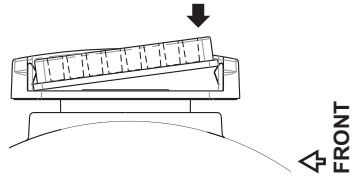

Fig.1 Platform or plate installation
Install the platform or plate by inserting it in the universal platform/plate holder (fig.1).
- 4.2. Place the plate or optional platform on the universal platform/plate holder and push it inside firmly (fig. 1). Insert the tubes into the sockets of the optional platform.